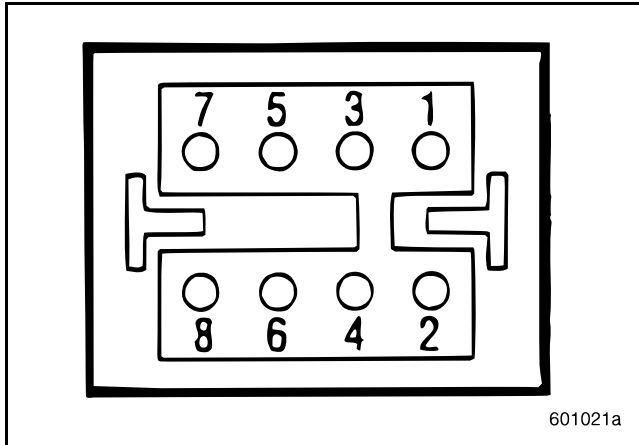

Figure 20 — Climate Control Panel 8-Way Harness Connector
1. Disconnect the 8-way harness connector from the climate control panel. Refer to Figure 20.